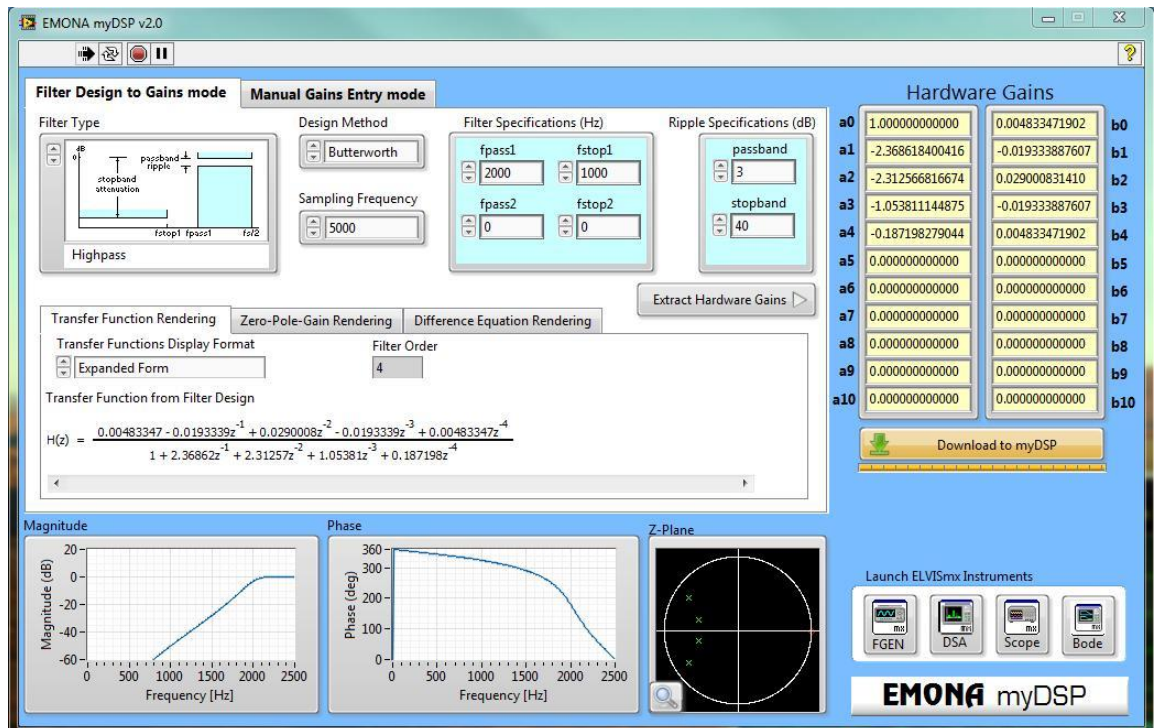

Figure 12: EMONA myDSP Configurations
3. Configure the EMONA myDSP as shown in Figure 12.